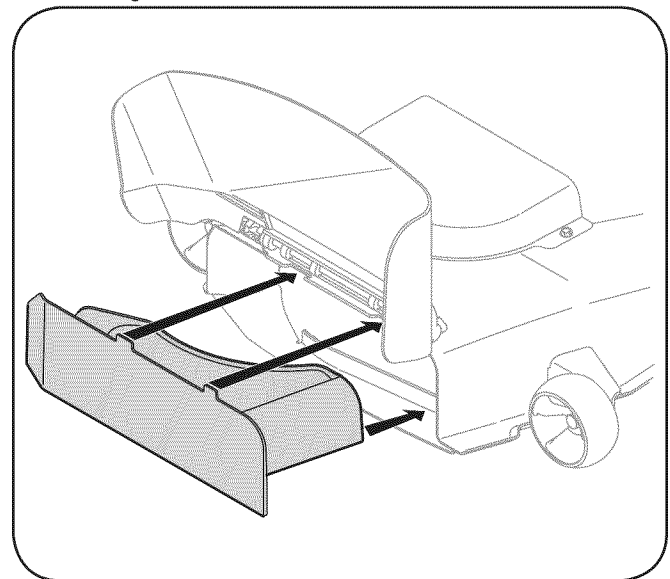

Figure 5-4
1. Locate two rectangular holes on the cutting deck surface. Pivot the discharge chute up to access the deck opening. See Fig. 5-4.
2. Insert the mulch plug, aligning the top edge of the plug with the deck as shown in the Fig. 5-4. Make sure the notches on the plug are in the slots on the deck opening.